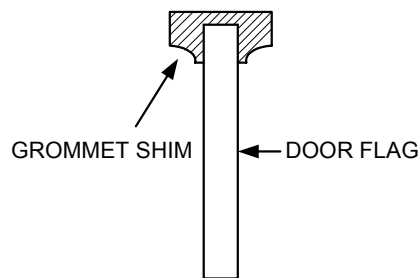

Figure 2
28. Install the grommet shim, ASP P/N 63-01441-102 on to the top of the door flag. Position the grommet shim such that both ends of the door flag, and the grommet shim are even with one another. See figure 2.